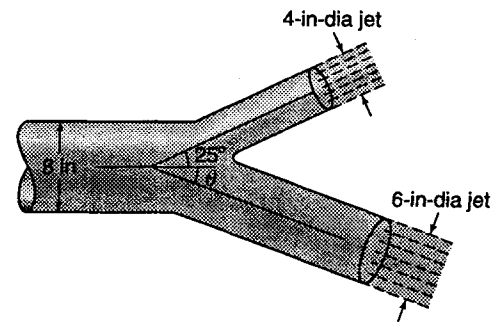

Figure X6.5.3
6.5.3 In Fig. X6.5.3, both nozzles discharge water horizontally into the atmosphere at 30 fps. Find  $\theta$  so that the resultant force on the unit is along the axis of the 8-in-diameter pipe.